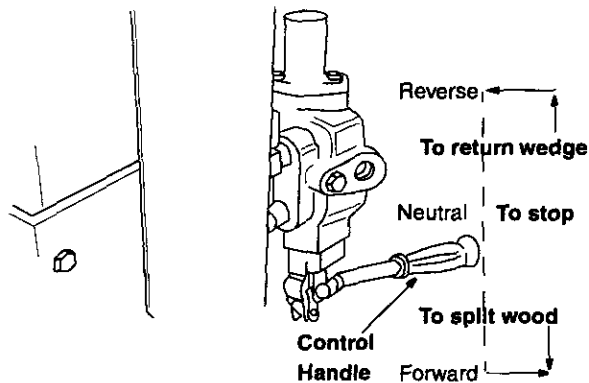

Figure 7
The control handle has three positions. See Figure 7.
- Use the control handle to engage the wedge to the far extended position. Refer to Figure 7.
- Move control handle BACK or UP to return the wedge. See Figure 7.